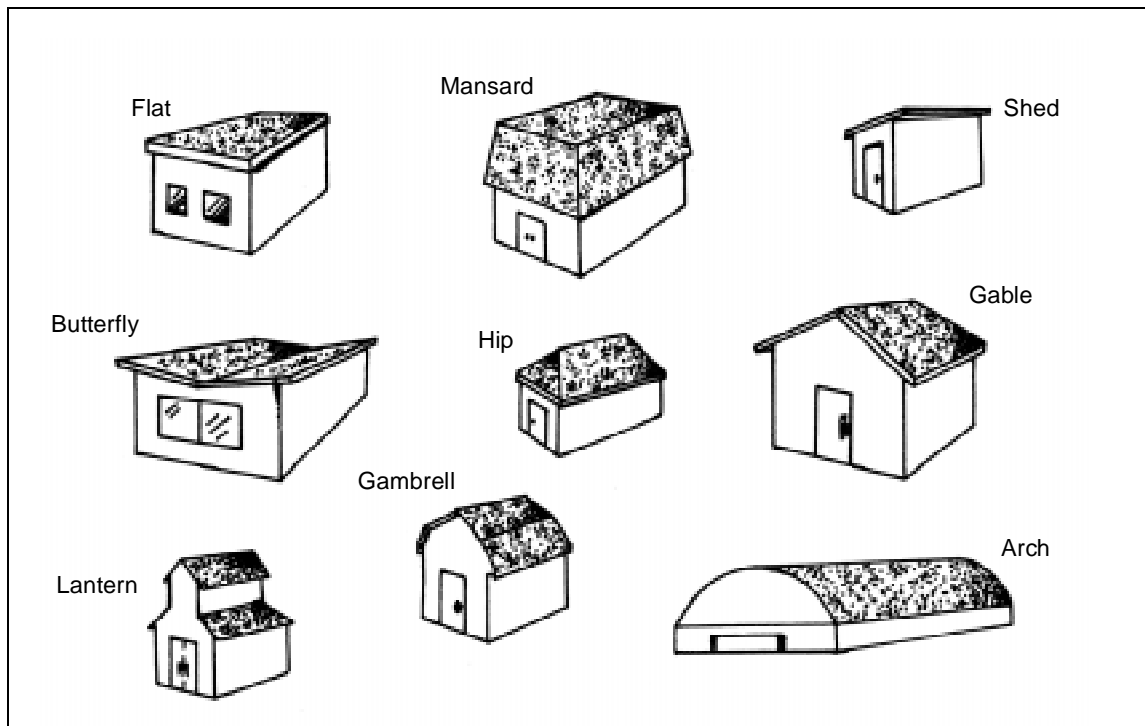

Figure 8-4. Roof types
**8-19.** Roofs are constructed in layers using different materials. The main support comes from the rafters, which run at right angles from the beam and ridge of the roof. Sheathing covers the rafters. Sheathing is 4- by 8-foot sheets of 1-inch plywood or 1-inch boards. Thin metal sheets or felt paper is nailed over the sheathing. The final layer can be a layer of tar or asphalt, 4- by 8-foot metal sheets, or other types of waterproof coverings. Figure 8-4 shows different types of roofs.